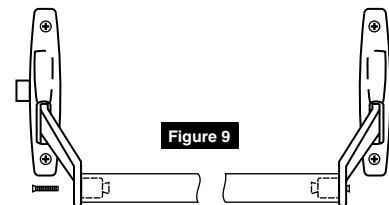

Figure 9
5. Position other end of bar in recess in active case lever then thread screw into tenon finger-tight. (Figure 9)